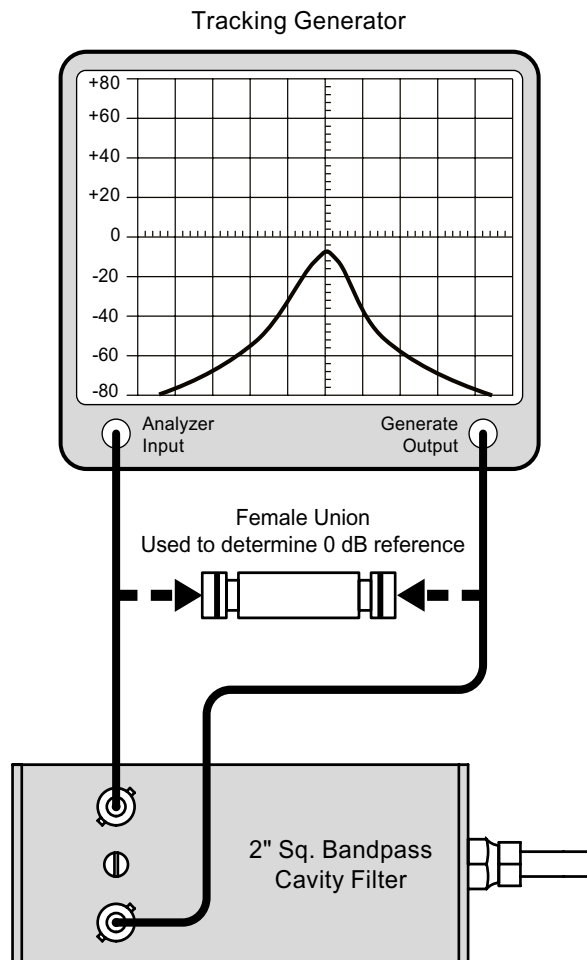

Figure 13: Bandpass filter tuning.
7. The resonant frequency of the filter is checked by connecting the tracking generator to the input of the cavity filter assembly while the spectrum analyzer is connected to the output, as shown in **Figure 13**.